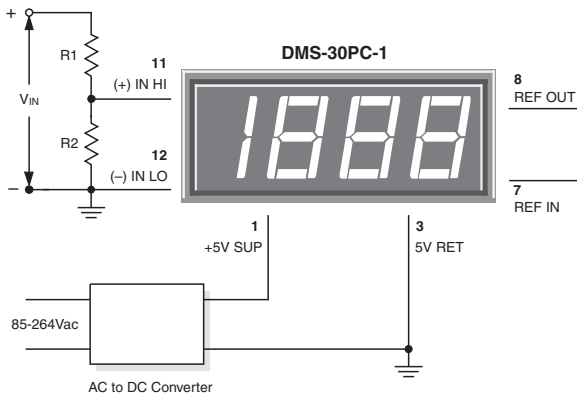

Figure 4. Input Attenuation Circuit
3. Engineering Scaling: For measuring voltages greater than the full scale input range of a given meter, the input signal must be attenuated. A simple voltage divider (similar to that shown in Figure 4) will scale the input to within the range of the selected meter. R1 and R2 should be precision, $\pm 1\%$, metal-film resistors with absolute TCR's less than 50ppm/°C. See Ap Note 4 for more information on engineering scaling.